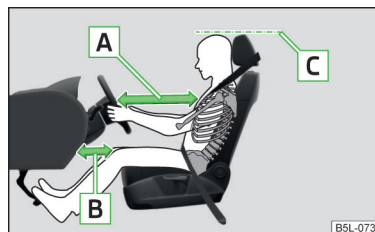

Fig. 1
- ✓ For vehicles with driver knee air-bag adjust the driver's seat in a forward/back direction so that there is a gap of at least 10 cm between the legs and the dash panel in the vicinity of the knee airbag - **B** » Fig. 1.
- ✓ Adjust the steering wheel so that the distance **A** between the steering wheel and your chest is at least 25 cm » Fig. 1. Adjust the steering wheel » page 10, *Adjusting the steering wheel position.*
- ✓ Adjust the head restraint so that the top edge of the head restraint is at the same level as the upper part of your head¹⁾ **C** » Fig. 1.
- ✓ Adjust the head restraint so that the top edge of the head restraint is at the same level as the upper part of your head¹⁾ **C** » Fig. 1 on page 9.
- ✓ Adjust the head restraint so that the top edge of the head restraint is at the same level as the upper part of the head **[C]** » Fig. 1 on page 9.